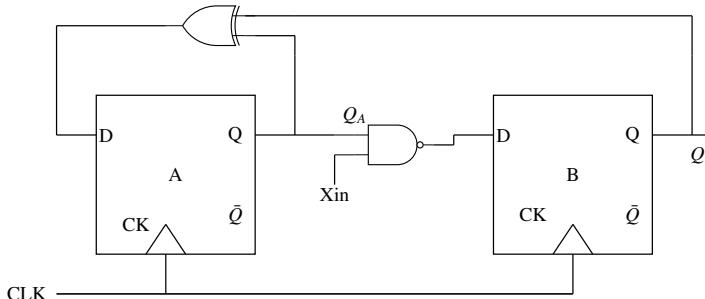

Fig. 6.11
7. A finite state machine (FSM) is implemented using the D flip-flops A and B, and logic gates, as shown in Fig. 6.11 below. The four possible states of the FSM are $Q_A Q_B = 00, 01, 10 and }11.$